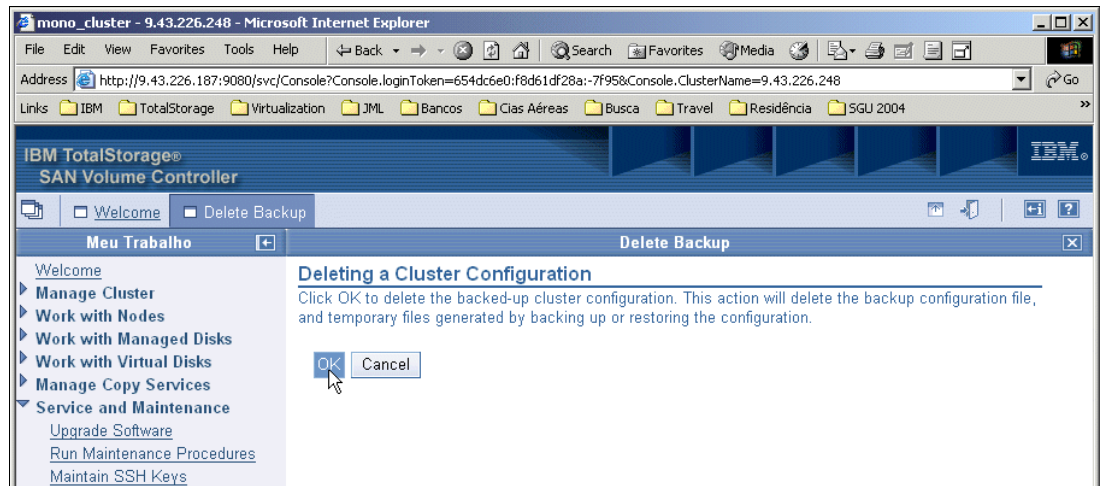

Figure 9-105 Deleting a cluster configuration
2. On the Deleting a Cluster Configuration panel (Figure 9-105), click the **OK** button to confirm the deletion. This deletes the C:\Program Files\IBM\svccconsole\cimom\backup\SVCclustername folder (where *SVCclustername* is the SVC cluster name on which you are working) on the SVC master console and all its contents.